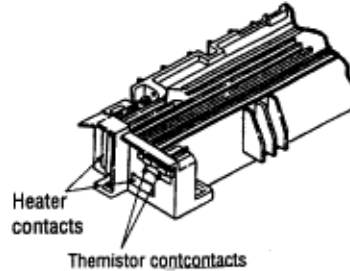

Figure 6-2
- Yes Is the thermistor open or shorted? Measure the resistance between thermistor contacts (about 220k Ω at room temperature) (see Fig. 6-2 or see 7.3).
• No Is the heater or the thermostat open? Measure the resistance between the heater contacts (normal resistance: about 0 Ω) (see Fig. 6-2 or see 7.3).
• No Is the AC voltage being supplied to the contacts for the heater of the contact assembly? (Refer Fig. 6-2)